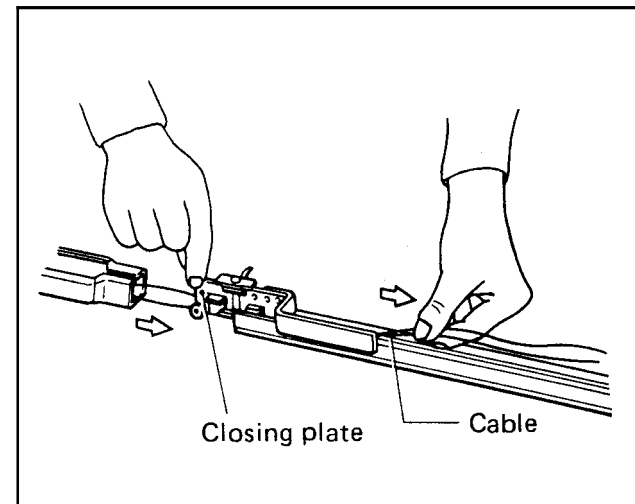
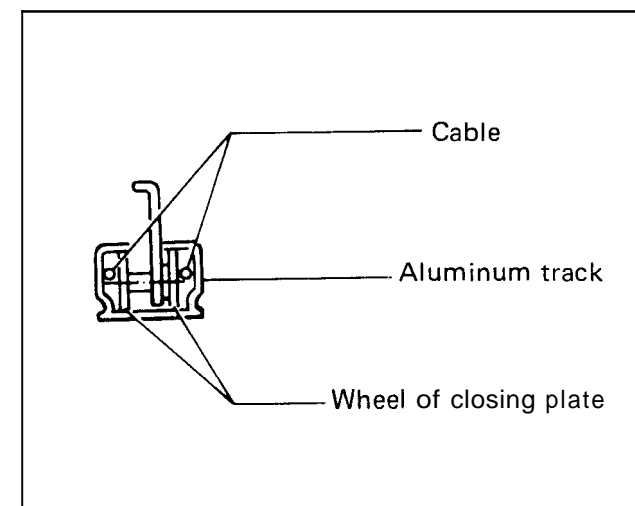
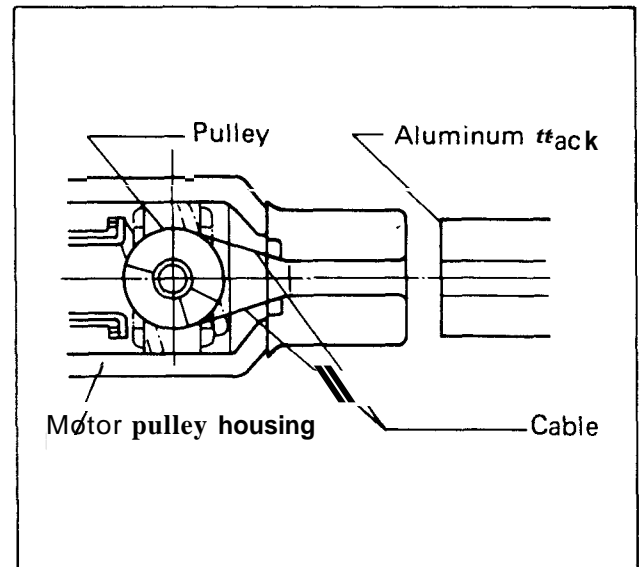

Fig. 3
Fig. 4
Fig. 5
6. Starting at the motor pulley housing end, lay the cable into the aluminum track about 4" making sure it is not twisted. While gently applying tension (pulling) on the cable, insert the closing plate into the track. (Fig. 3) Be sure to keep the cable on the outside of the wheels. (Fig. 4) Attach the motor pulley housing to the track. Make sure the track is butted up to the stop inside the cover. Repeat operation at other end, again making sure wire is not twisted or crossed. Reinstall securing plates to motor pulley and end pulley housings.
When inserting the closing plates into the aluminum track, make sure the cable stays on the outside of the wheels. (Fig. 4) Also check that the cable rides in the groove of the pulley in both housings. (Fig. 5)